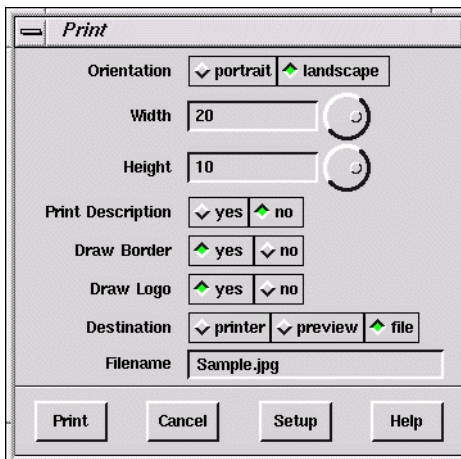

Figure 15-15 Printing to a file.
2. **Print to a file.** Click Print Viewport in the File menu. Click File in the Destination section. Enter a file name and select the desired options for the data set plot. (See Figure 15-15.) Click Print and the file will be saved into your home directory.